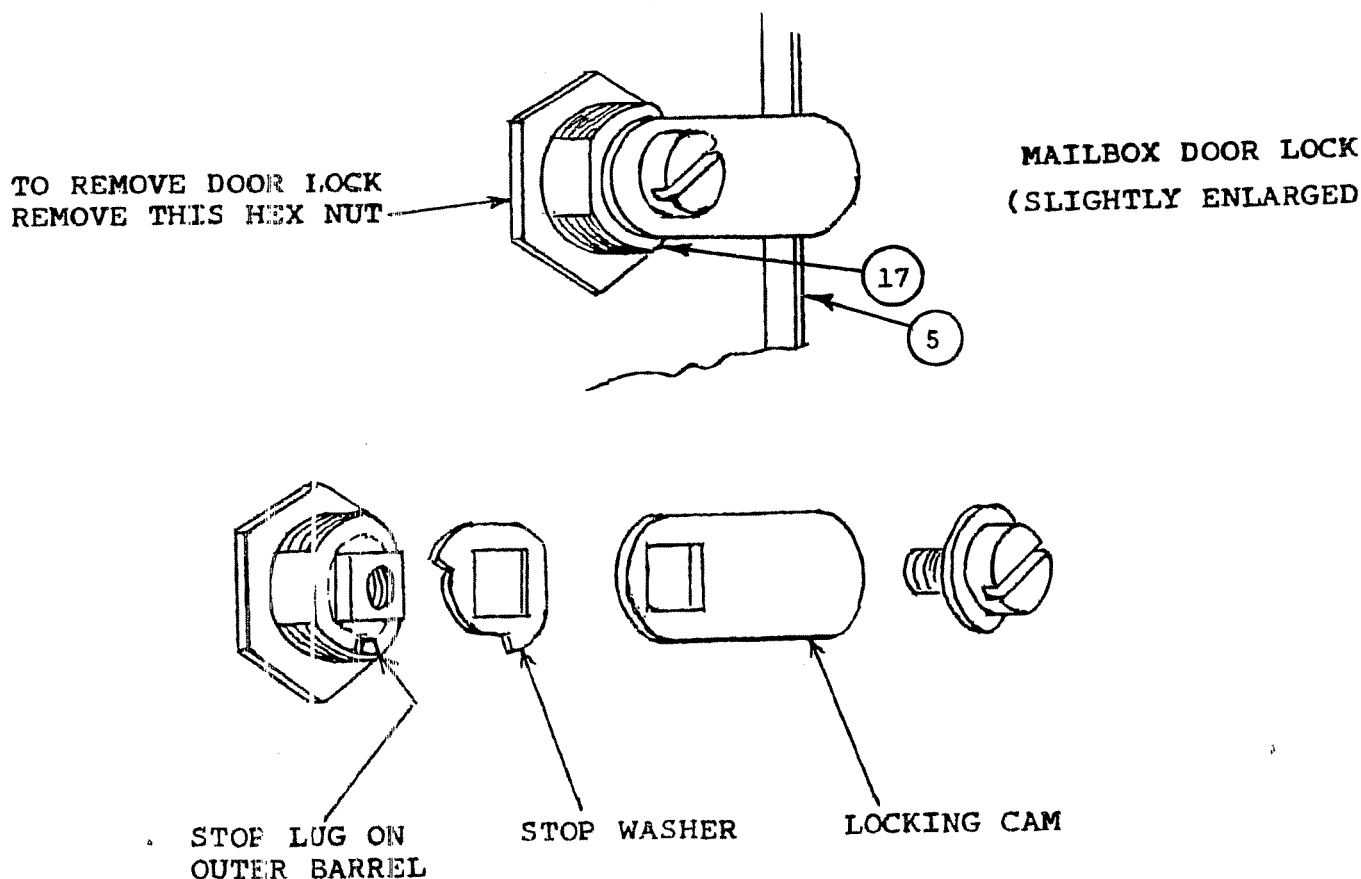

FIGURE 3
V. Repairs - FIGURE 3
A. Defective lock - Figure 3
2. As illustrated in figure 3, remove the screw from the back of the lock.
5. IMPORTANT: Before installing a new lock, item 17, the key from it should be tried in all of the other doors in the unit to prevent duplication.